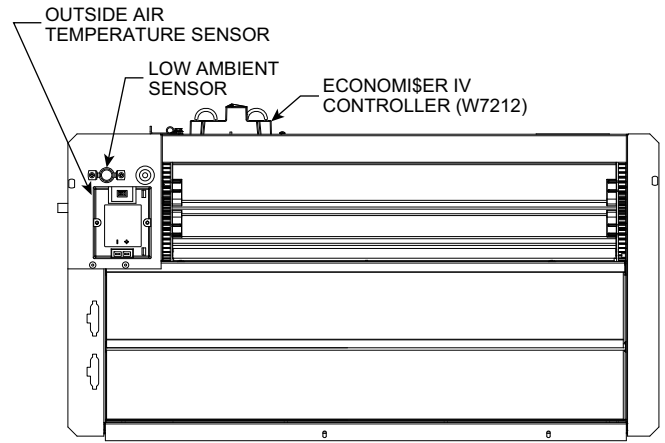
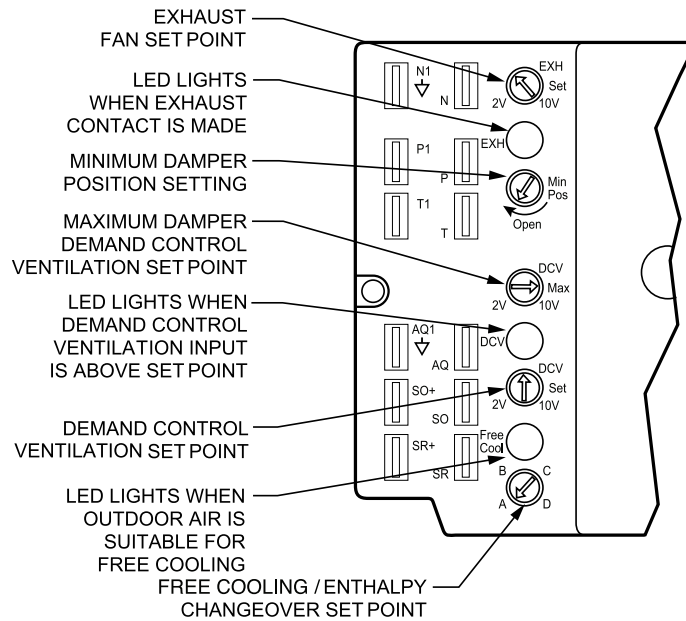

Fig. 1 — EconoMi\$er IV Component Locations — (3 to 6 Ton Shown)
Fig. 13 — EconoMiSer IV Controller Potentiometer and LED Locations
See Table 1 for package usage. See Table 2 for package contents. See Table 3 for sensor usage. See Fig. 1 for EconoMiSer IV component locations.
11. The outside air temperature (OAT) is taped to the front economizer divider plate for shipping purposes. Relocate sensor to operating position as shown in Fig. 1.
- c. The minimum position for the outdoor damper can be configured at the controller. When not using CO₂ sensors, set the DCV Max potentiometer to completely closed (CCW) to insure that the Minimum Position potentiometer functions correctly. When using a remote minimum position potentiometer, the Min Pos Pot on the controller must be fully CW. (See Fig. 13.)
The EconoMiSer IV system is equipped with a low ambient temperature lockout switch located in the outdoor airstream which is used to lock out the compressors below a 42°F (6°C) ambient temperature. (See Fig. 1.)
For enthalpy control, accessory enthalpy sensor (part number HH57AC078) is required. Replace the standard outdoor dry bulb temperature sensor with the accessory enthalpy sensor in the same mounting location. (See Fig. 1.) When the outdoor air enthalpy rises above the outdoor enthalpy changeover set point, the outdoor-air damper moves to its minimum position. The outdoor enthalpy changeover set point is set with the outdoor enthalpy set point (ABCD) potentiometer on the EconoMiSer IV controller. The set points are A, B, C, and D (see Fig. 13, 14, and 17). The factory-installed 620-ohm jumper must be in place across terminals SR and SR+ on EconoMiSer IV controller. (See Fig. 8.) When not using CO₂ sensors, set the DCV Max potentiometer to completely closed (CCW) to ensure that the Minimum Position potentiometer functions correctly.
same mounting location. (See Fig. 1.) Mount the return air enthalpy sensor in the return air duct. (See Fig. 8 and 16.) When using this mode of changeover control, turn the outdoor enthalpy set point (ABCD) potentiometer fully clockwise to the D setting.
There is a minimum damper position potentiometer on the EconoMiSer IV controller. (See Fig. 13.) Adjust the Min Pos potentiometer to allow the minimum or base amount of outdoor air, as required by local codes, to enter the building. Make minimum position adjustments with at least 10°F (-12°C) temperature difference between the outdoor and return-air temperatures. The minimum damper position maintains the minimum airflow for full occupancy into the building during the occupied period when demand control ventilation is not being used.